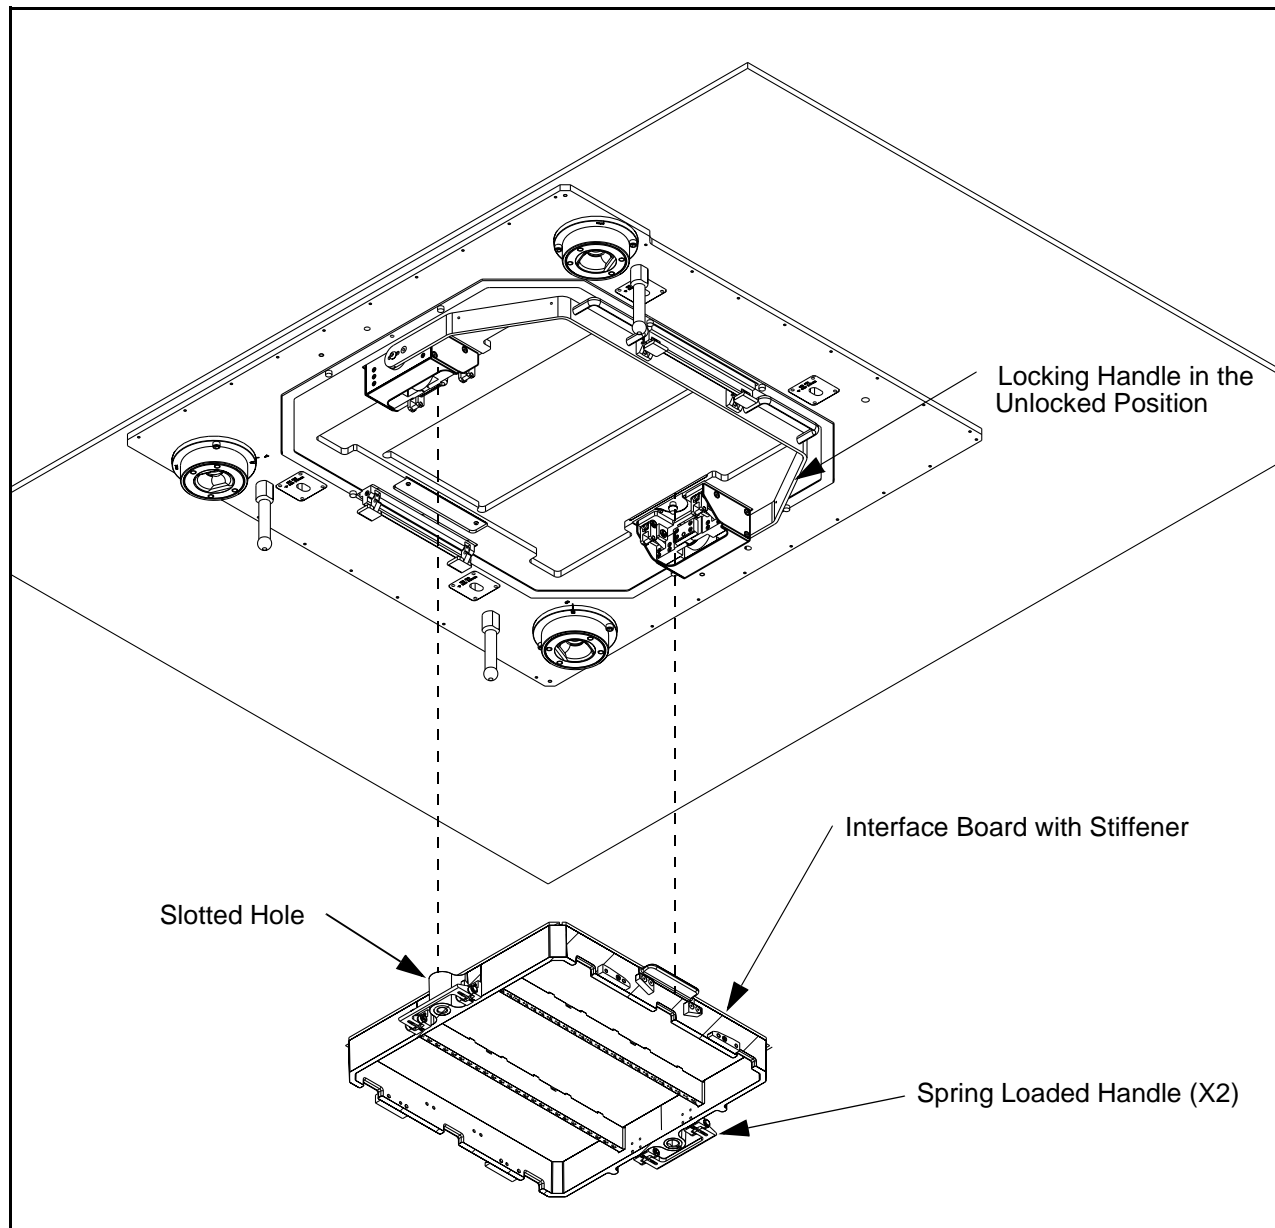
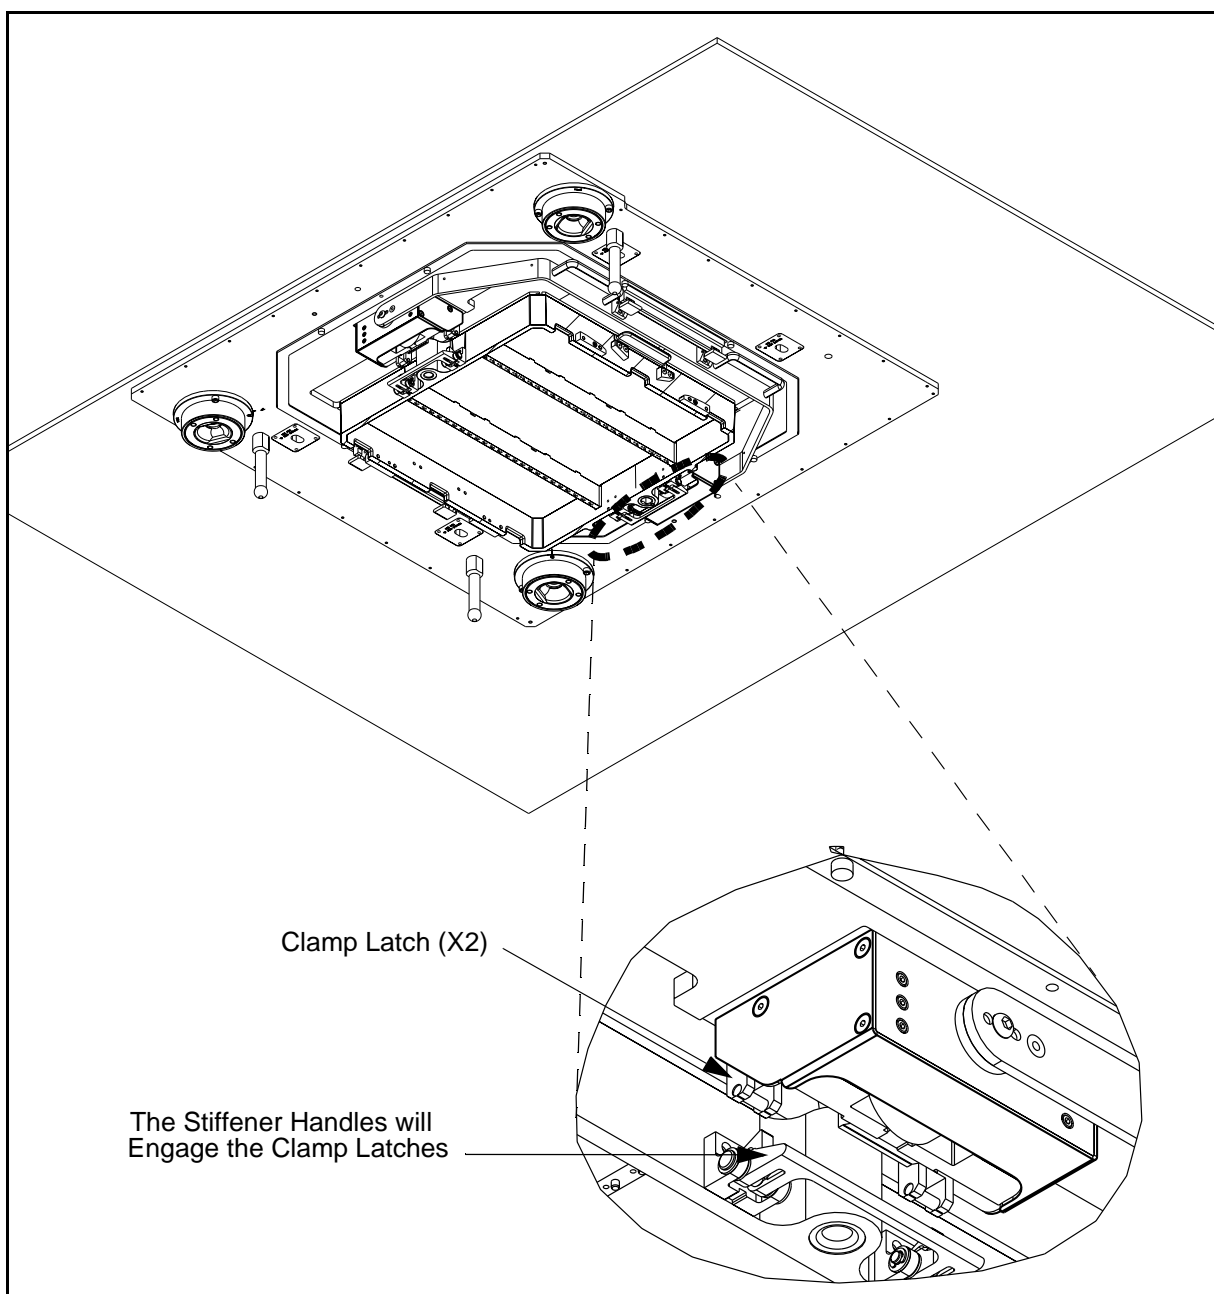

Figure 19 Quick DIB Clamp Kit Locking Handle in the Open (Unlocked) Position
Figure 20 Prelatched Interface Board
Any handler interface board that is used with this interface requires a handle upgrade kit (pn 866-741-00) attached to the interface board stiffener (see Figure 19).
- I) Move the Quick DIB Clamp locking handle to the unlocked position (see Figure 19).
- 2) Orient the interface board (with stiffener and handles) so that it is properly aligned to the quick DIB clamp's corresponding pins. The stiffener has two bushings that engage these pins; one bushing is round the other is slotted. Hold the stiffener (and interface board) by its spring loaded handles. See Figure 19.
- 3) Move the stiffener (and interface board) toward the Quick DIB Clamp Kit and actuate/retract the spring loaded handles until they contact the clamp latches (see Figure 19 and Figure 20). Release the handles so that they engage the clamp latches. The board is now prelatched and holding itself in place (see Figure 20).
- 1) To remove the interface board (with stiffener) from the interface, move the locking handle to the unlocked position. See Figure 19.